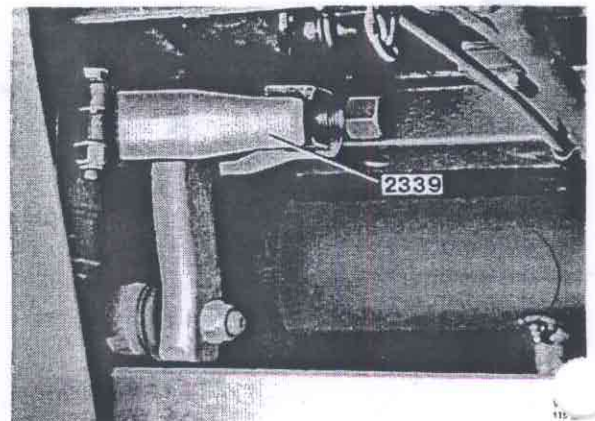

Fig. 64-4. Removing the pitman arm
2. Pull off the pitman arm with puller 2339, see Fig. 64-4.